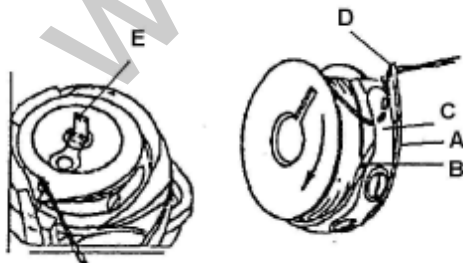

Fig.4
The thread passes from the bobbin case (A) through slot (B) under spring (C) into the looper (fig. 4) in such a way that the thread will be unwound from the bobbin in the direction of the arrow. Hold a thread end of ca. 5-6 cm and insert the bobbin case containing bobbin into the hook in such a way so that the thread can be unwound from the bobbin smoothly. Lock the bobbin case (A) in the looper using the lock (E).